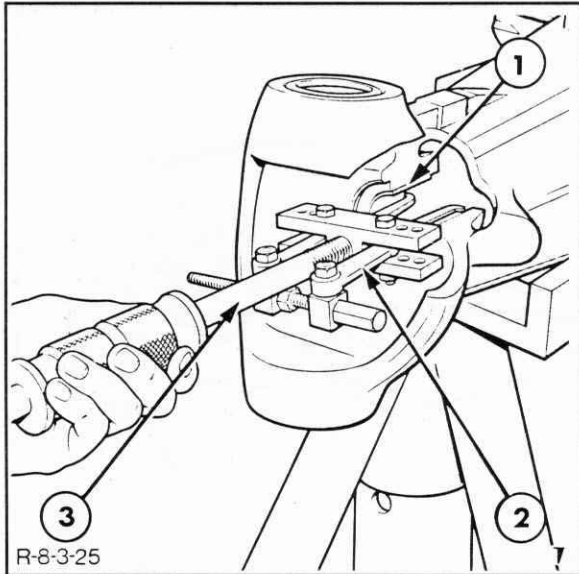

Figure 7-90
5. Inspect the axle shaft bushings in the swivel casing and the axle center casing. If these bushings are worn or damaged, extract them using Tool No. 943 and 943S (9507 and 9567) or Tool No. 954C (9508), Figure 7-90.